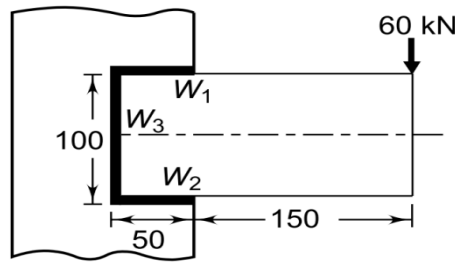

Fig. Q5(a)
5. (a) A welded connection, as shown in Fig. Q5(a) is subjected to an eccentric force of 60 kN in the plane of welds. Determine the size of the welds, if the permissible shear stress for the weld is 100 N/mm^2 . Assume static conditions. 8M